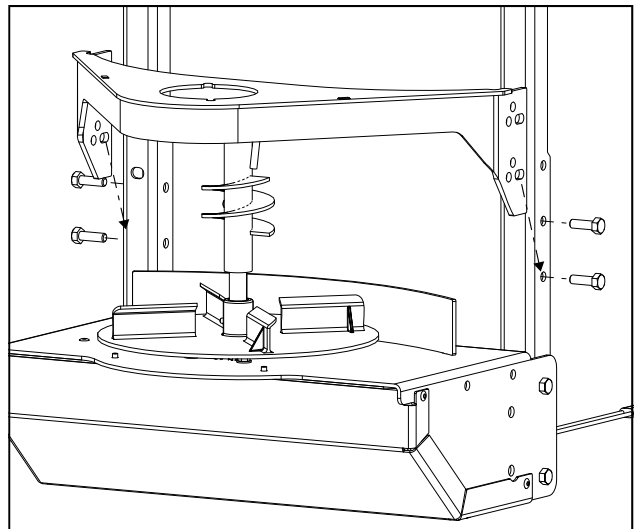

Fig 1.3
- 1.3 Mount the throat support to the support frame at the 2 lower holes by using the four supplied $5/16"$ x $1"$ cap screws and $5/16"$ locknuts. Tighten the fasteners according to the torque chart. As shown in figure 1.3.